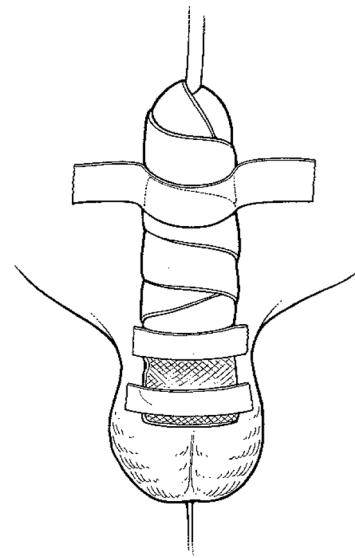

Figure 4-24. Tape Penis to Abdomen
5. Tape penis to abdomen (**Figure 4-24**).